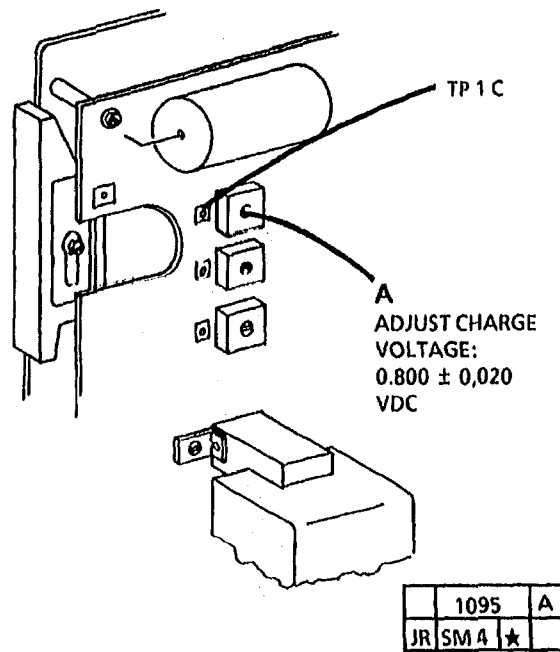

Figure 6. Charge Voltage Adjustment
13. (Figure 6): Adjust the charge voltage.
- a. Connect the red lead (+) to TP1 (Figure 6).